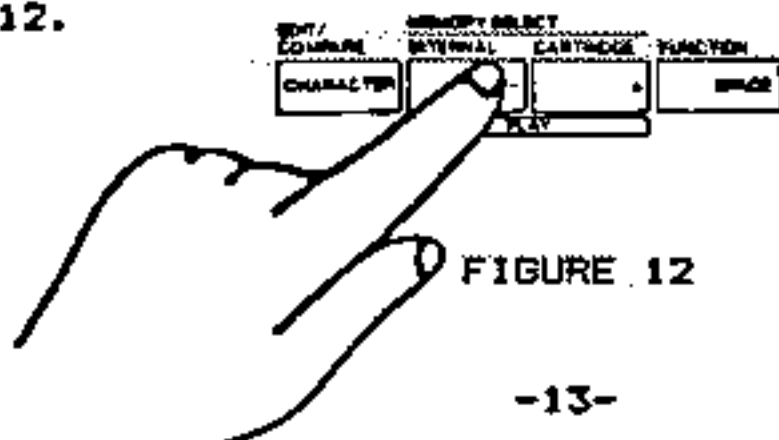

FIGURE 12
- (1) Set the MIDI SYSTEM INFORMATION FUNCTION to the "ON" condition.
- (2) Press the INTERNAL MEMORY SELECT switch as shown in FIGURE 12.